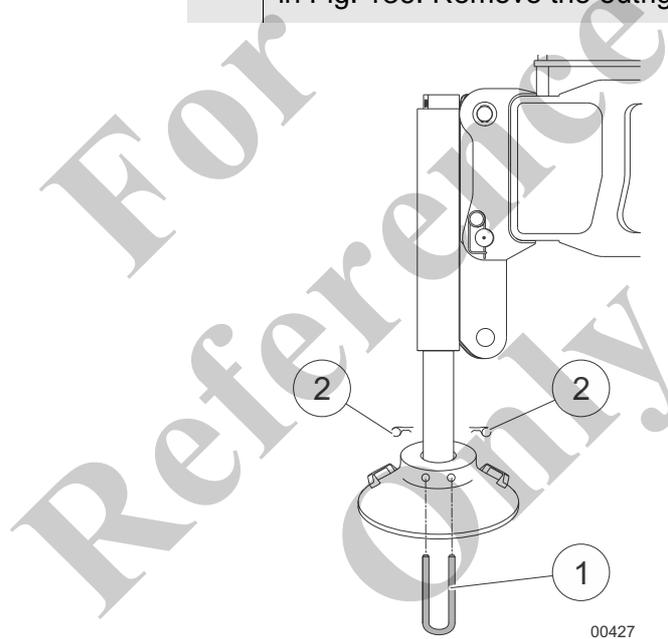

Fig. 136 Removing the outrigger pad
5	Remove the locking bracket (1) and the spring washer (2) in Fig. 136. Remove the outrigger pad.